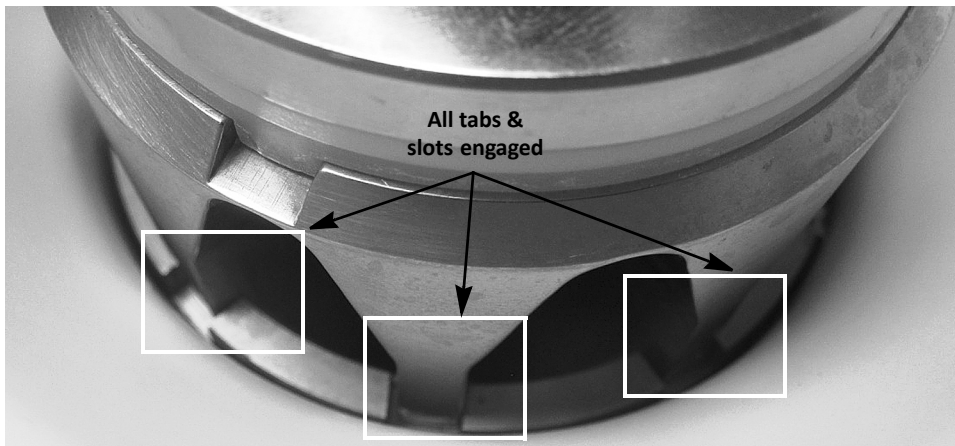

Figure 9.
3. Carefully rotate the extruder head until the tabs on the extruder head drop into the slots on the evaporator plate, as shown in Figure 9. When the auger/extruder head assembly is rotated to the proper position, it will drop about 1/4 inch to more fully engage the motor drive shaft.